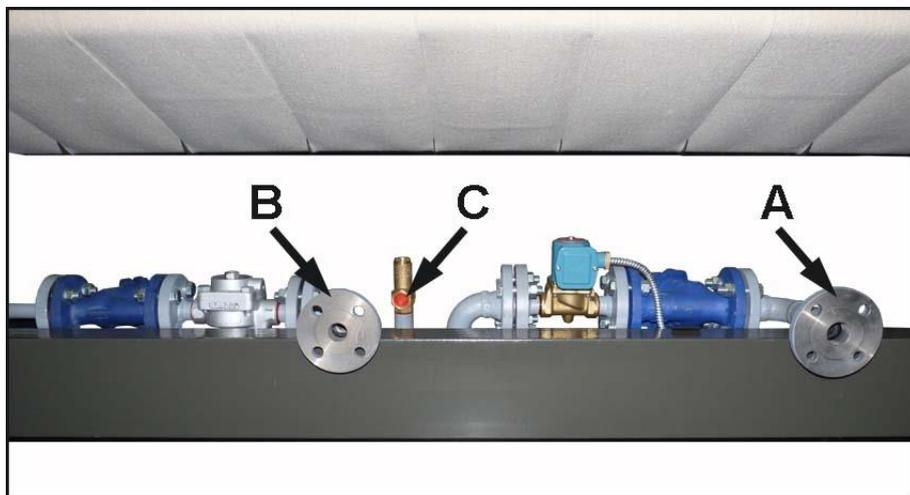

Fig. 5.16
**HEATING CIRCUIT ASSEMBLING** (Fig. 5.16).